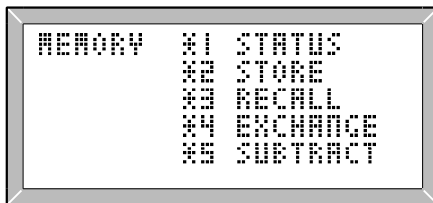
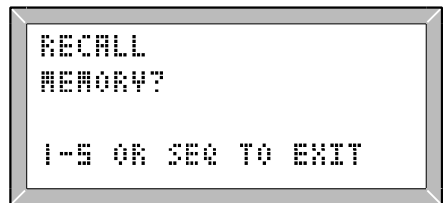

Fig. 3.12 Memory Operations Menu
Fig. 3.13 Recalling Results
Up to six sets of stereo sequence results can be held in non-volatile memory for later comparison, printing or transfer to a computer. A menu (fig 3.12), obtained by pressing **[\*][MEM]** from PAGE or SEQ mode, lists five operations: **[\*][2]** saves the results from the 'working' memory (0) to a specified memory (1 to 5). **[\*][3]** recalls results (fig 3.13) from a specified memory (1 to 5) to the working memory (0). **[\*][1]**, **[\*][4]** and **[\*][5]** are for status (show the source ID and segment list for a memory), exchange (gives, instant comparison between memories) or subtract (each sample in a chosen memory is subtracted from the sample in memory 0). Note that these operations can also be carried out by pressing **[\*][1]** to **[\*][5]** directly without entering the menu (with the small restriction that **[\*][1]** cannot be used from the graph page). When an operation has been selected the memory number should be entered by pressing 1-5. At this stage, the operation can be aborted by pressing **[SEQ]**, or a different operation can be selected by pressing the appropriate **[\*]** key (**[\*][1]** to **[\*][5]**).
Usually the unit can hold six complete sets of results in memories 0 to 5 (memory 0 being the main or working memory). However, the number of results memories is reduced when user tolerances are defined (section 5.6) or when the unit is configured for multiple results compartments (section 4.18). In either case, the range of memory numbers available is always shown (as in fig 3.13).